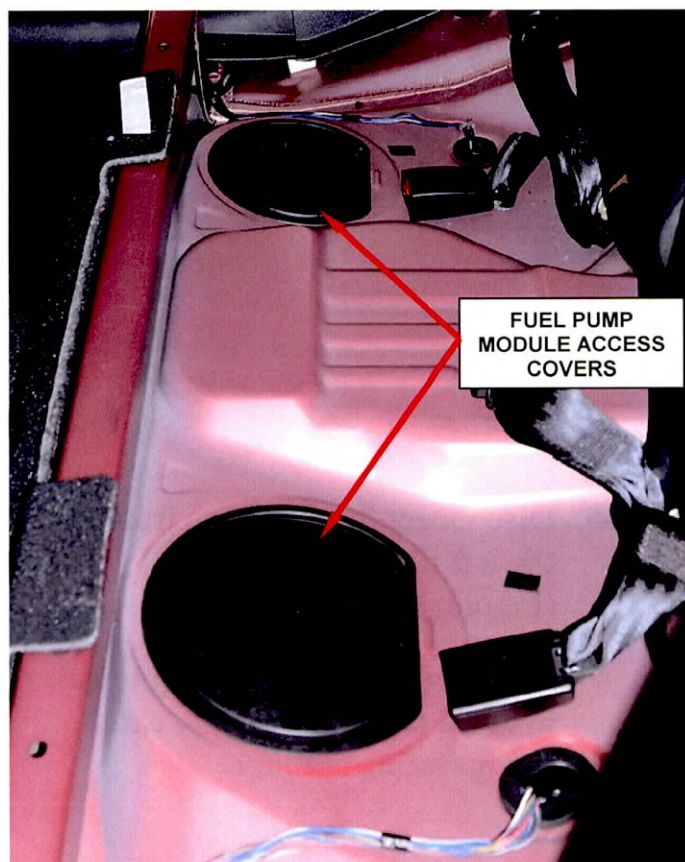

Figure 2 – Fuel Pump Access Covers
- d. Remove and save both plastic fuel pump module access covers (Figure 2).